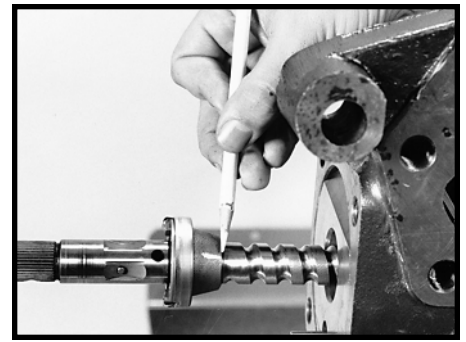
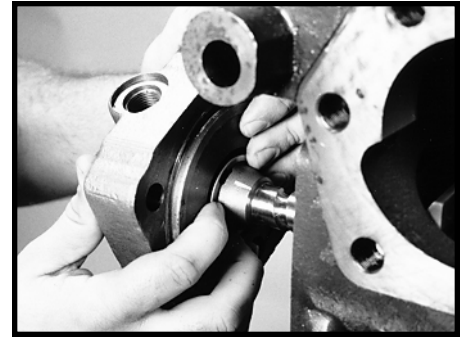

Figure 131
Figure 133
26. Locate the scribed timing marks on the worm shaft/input shaft assembly (17) and valve sleeve (15). SEE FIGURE 131. Next, grasp the valve housing (9) and valve sleeve as an assembly, with your thumbs on the valve housing and your fingers applying pressure on the valve sleeve to keep it in the valve housing. SEE FIGURE 132. Align the previously located timing marks and place the valve housing and valve sleeve as an assembly onto the input shaft end of the worm shaft/input shaft until the drive lugs on assembly (17) are fully engaged in valve sleeve lug slots. SEE FIGURE 133.